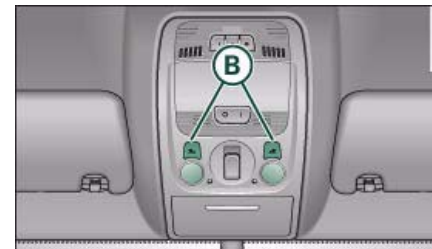

Fig. 58 Headliner:
- Press one of the switches **(B)** ⇒ page 59, fig. 58 to switch the left or right reading light on and off.